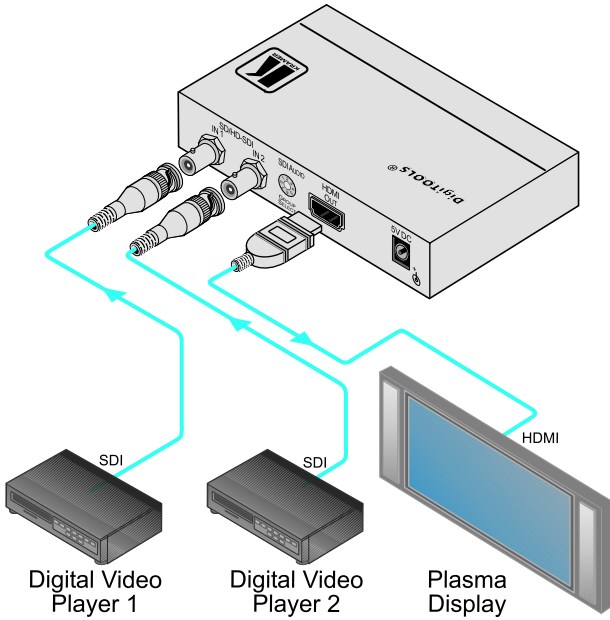

Figure 2: Connecting the FC-321 SD/HD-SDI to HDMI Converter/Switcher
| Figure 2: | Connecting the FC-321 SD/HD-SDI to HDMI Converter/Switcher | 7 |
To connect the **FC-321**, as the example in *Figure 2* illustrates, do the following¹:
5. Connect the 5V DC power adapter to the power socket and connect the adapter to the mains electricity (not illustrated in *Figure 2*).